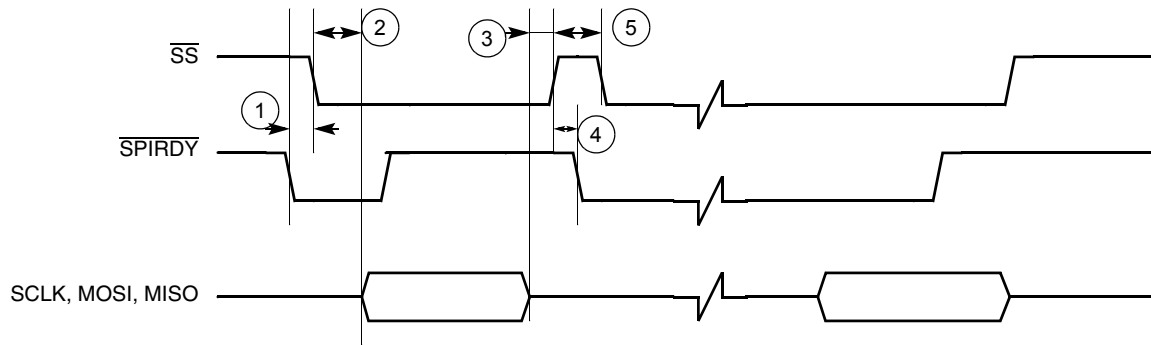
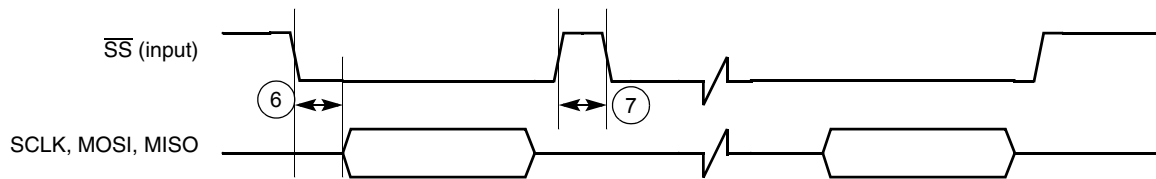

Figure 34. Master SPI Timing Diagram Using $\overline{\text{SPI_RDY}}$ Edge Trigger
Figure 38. Slave SPI Timing Diagram FIFO Advanced by $\overline{\text{SS}}$ Rising Edge
To use the internal transmit (TX) and receive (RX) data FIFOs when the SPI 1 module is configured as a master, two control signals are used for data transfer rate control: the \overline{SS} signal (output) and the $\overline{SPI_RDY}$ signal (input). The SPI1 Sample Period Control Register (PERIODREG1) and the SPI2 Sample Period Control Register (PERIODREG2) can also be programmed to a fixed data transfer rate for either SPI 1 or SPI 2. When the SPI 1 module is configured as a slave, the user can configure the SPI1 Control Register (CONTROLREG1) to match the external SPI master's timing. In this configuration, \overline{SS} becomes an input signal, and is used to latch data into or load data out to the internal data shift registers, as well as to increment the data FIFO. Figure 34 through Figure 38 show the timing relationship of the master SPI using different triggering mechanisms.
Table 18. Timing Parameter Table for Figure 34 through Figure 38